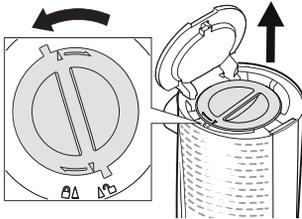

fig. 2
- Open the lid by pushing the lid release button (B).
- Rotate the filter cover anticlockwise until the pointer on the cover matches the symbol  (fig.2).